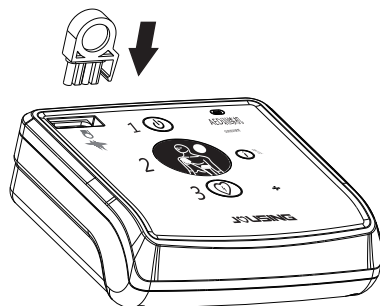

Figure 6 Inserting Pad Connector
2. Place the pad connector into the socket on the main unit and make sure it is completely inserted, as shown in Figure 6.